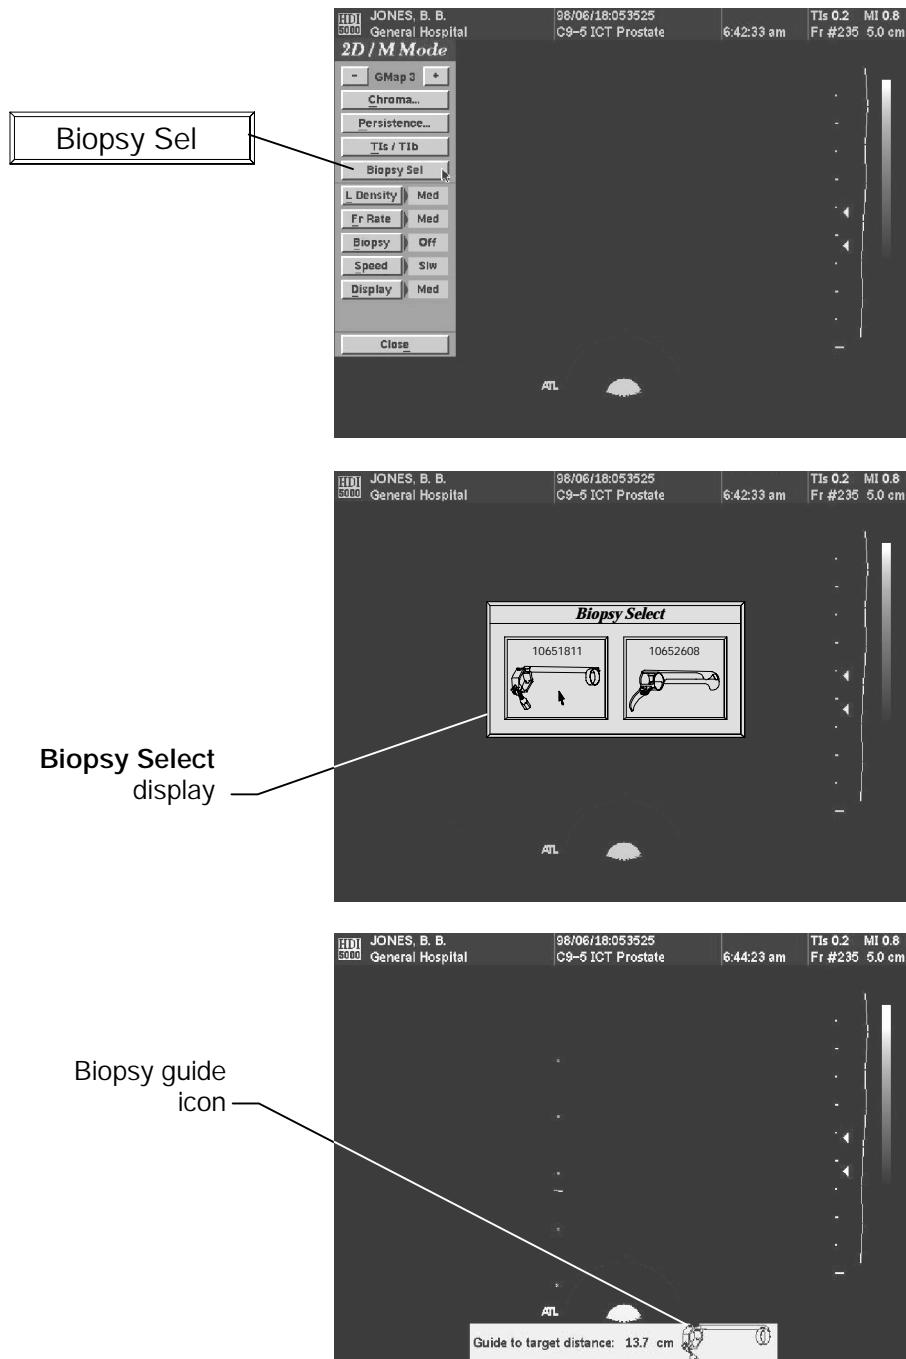

Figure 5-1. Selecting the Biopsy Guideline Display for the C9-5 Scanhead
3. Select **Biop Sel** to display a **Biopsy Select** display (Figure 5-1).